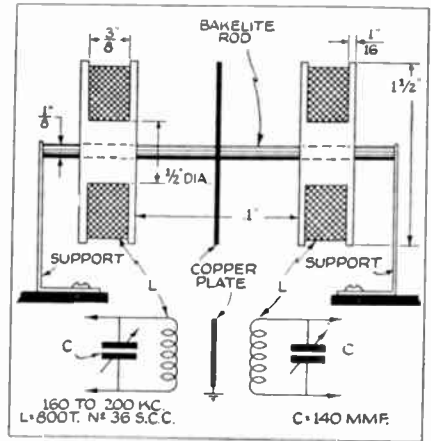

Fig. 30
(A) In Fig. 30 is illustrated a suitable design for an I.F. transformer which, by adjustment of variable condensers C, will operate over the frequency band of 100 to 200 kc. The copper plate is required only when exceptional selectivity is required—as when a limited number of stages are to be used. Selectivity and volume are controlled also by the spacing of coils L. Brass supports may be used, bent as shown. The formers, or spools, may be lathe-turned bakelite or wood, or a job built up of insulating washers and rods. Scramble-wind the coils.